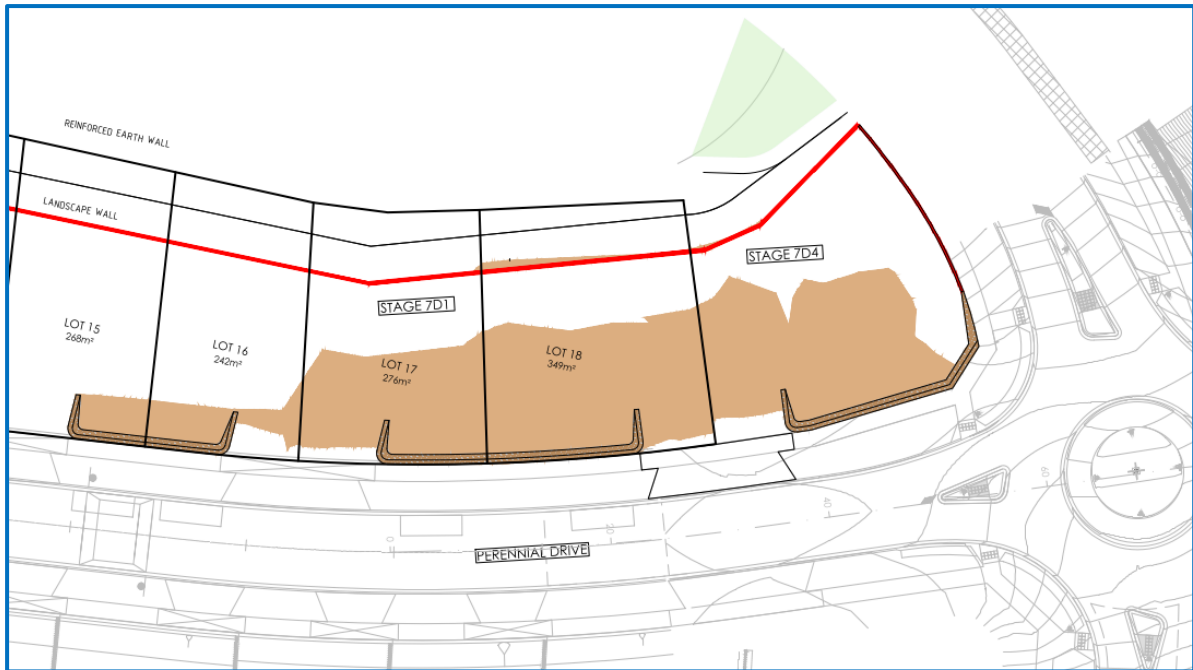

Figure 2.4: Extract from CJ Arms drawing titled 'Fill Layout Plan', Project No.15006, Drawing No.9901, Sheet 2 of 2, Rev 1
- Site Plan drawing (1 page) prepared by CJ Arms titled 'Fill Layout Plan', Project No.15006, Drawing No.9901, Sheet 2 of 2, Rev 1, dated 14.02.2024, attached in Appendix D. Extract of this drawing is shown in Figure 2.4.